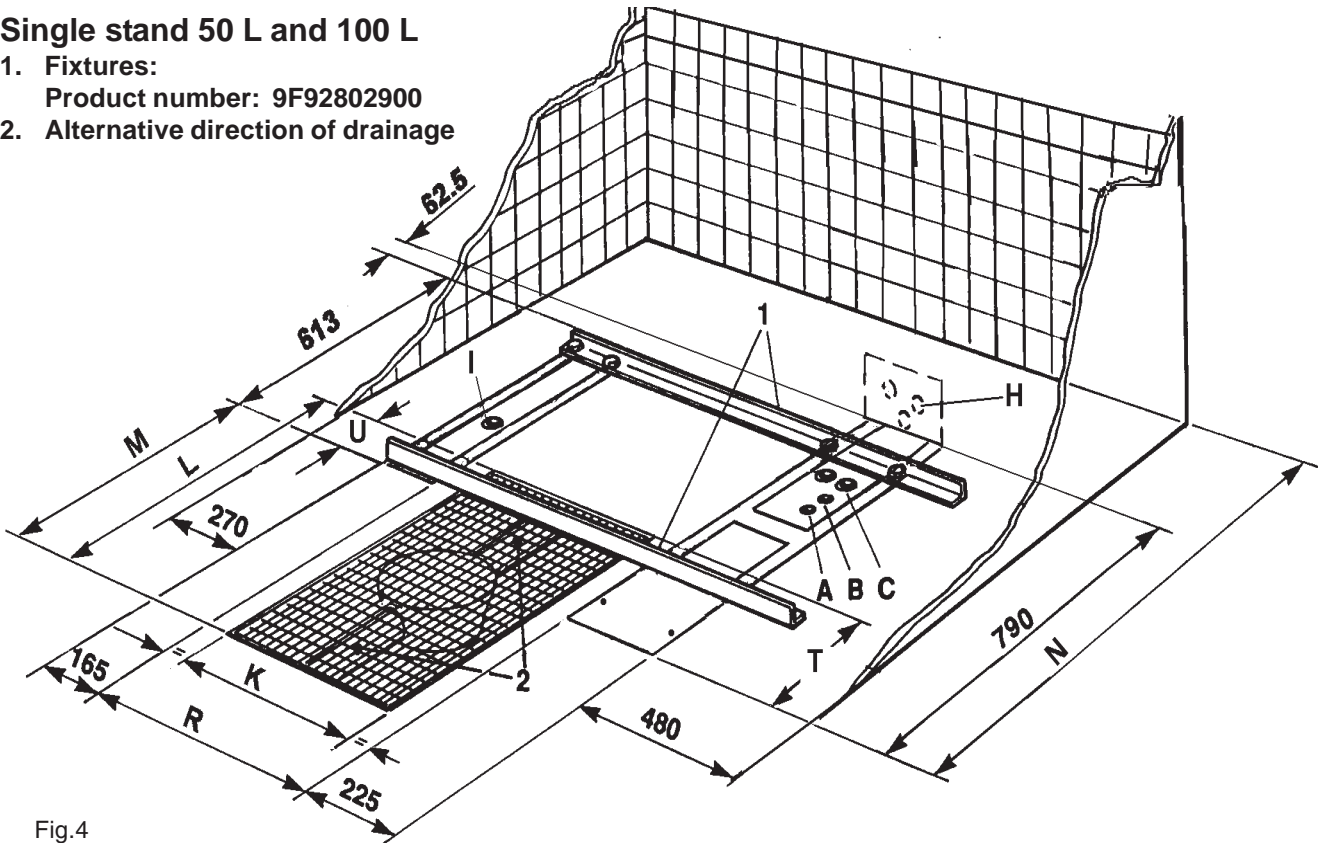

Fig.4
- **NOTE:** Check that: Measure R, between the wall and the mounting frames, is correct to an accuracy of +/- 2 mm. (See Fig. 4, 6 and 9)